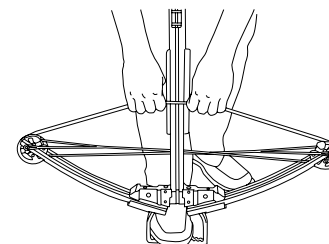

Figure 11
- 21 Ensure the trigger safety is in the “Fire” position. With the crossbow in the cocking position, place one foot securely through the foot stirrup. Reach down and grasp the crossbow string, positioning your hands against the opposing sides of the barrel. While standing, pull evenly upward, keeping your hands in contact with the barrel until the string passes under the crossbolt retention spring and enters the string opening in the trigger mechanism. Continue pulling fully to the rear until the safety moves to the “Safe” position. Relax the tension slightly to ensure the trigger latch has captured the crossbow string (See Figure 11).